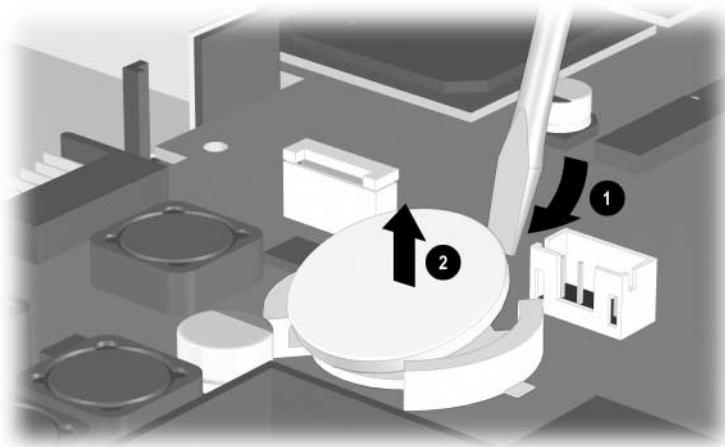

Figure 5-31. Removing the Disk Cell RTC Battery
2. Use a flat-bladed tool to release the RTC battery from its socket ① (Figure 5-31).
3. Remove the RTC battery ②.